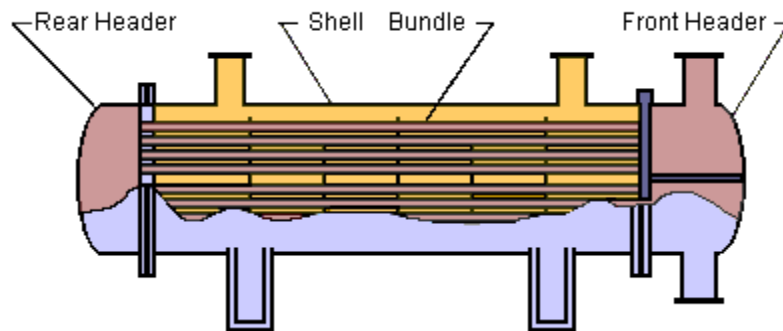

Figure 11.6 Shell and tube heat exchanger
- The shell and tube heat exchanger (see **Figure 11.6**)